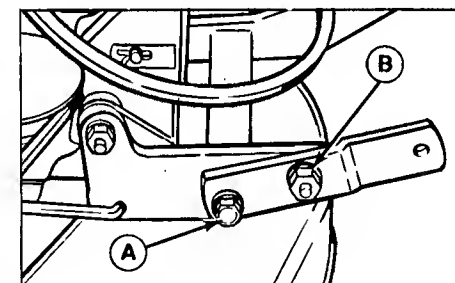

Figure 40. Mower Hitch (shown removed from tractor)
6. Loosen the capscrew (A, figure 40) and flange nut (B) in the right mower hitch.
8. Retighten the capscrew and flange nut (B, figure 40). Torque capscrew (A) to 50 ft. lbs. Torque nut (B) to 65 ft. lbs.